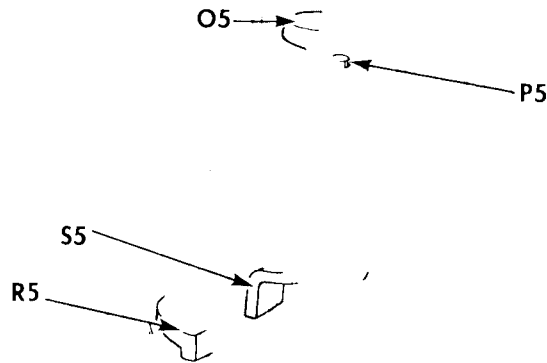

Fig. 33.
**Fig. 33**, on the following page, shows a 30-ligne, 4-hole flat button held in button clamp **175746**, with shankng foot **175401** and feed plate **175689**, for blind stitching away from the material.
Shanking foot 175401, S5, Fig. 33 for blind stitching differs from shanking foot 175411, S5, Fig. 23, page 21 for through and through stitching in that 175401 (S5) has a single foot, its position being opposite the adjustable work support R5 shown in Fig. 33.
The shanking foot 55 is fastened to the button clamp by means of thumb screw O5; with the position screw P5 in the slot of the shanking foot as shown in Fig. 33.